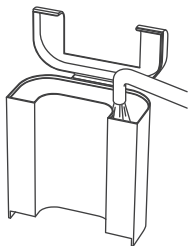

Fig. 29
1. Fill the Water Tank with fresh water but not beyond the MAX Fill Line. (Fig. 29)